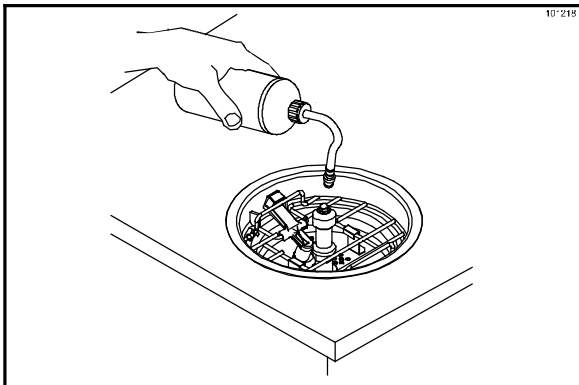

Figure 119
70. Reinstall the rinse station assembly. Using the squeeze bottle of cleaning solution, thoroughly flush the rinser head and rinse station area. (See Figure 119.)